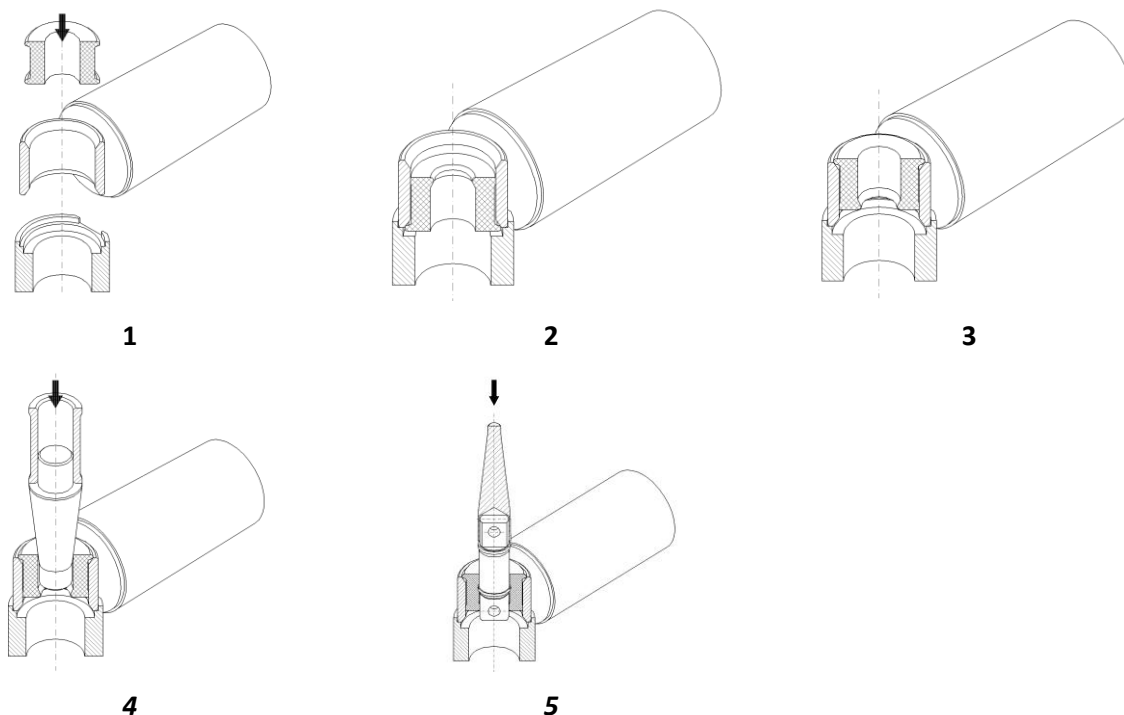

Figure 5-6 Replacement of rubber blocks
3. Place the eye on a suitable tool (Figure 5-6/1).
4. Place the rubber over the eye and press it in. If necessary, a plastic or wooden hammer can be used. The rubber must be pressed in so far that the collar of the rubber projects above the bottom side of the eye (Figure 5-6/2).
5. Rotate the damper 180° around the longitudinal axis and place the eye back on the tool (Figure 5-6/3).
6. Heat the assembly cone and the bush or trunnion to be mounted to about 60°C. Place the assembly cone in the rubber and the bush on the cone (Figure 5-6/4) or place the trunnion in the rubber and the assembly cone on the trunnion (Figure 5-6/5).